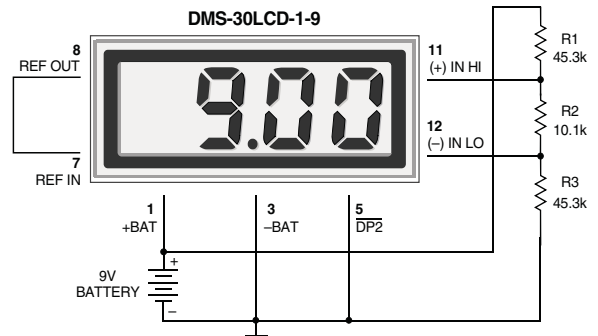

Figure 8. Power Supply Monitor (9V-Powered Models)
6. Power Supply Monitoring: A popular application for Murata Power Solutions' low-power LCD meters is monitoring the supply voltage in battery-operated portable equipment. Figure 8 demonstrates how a 9V-powered DMS-30LCD can be used to monitor its own supply. The meter used is the DMS-30LCD-1-9. A three-resistor voltage divider is used to attenuate the battery voltage and also to satisfy the requirement that the input voltages applied to pins 12 and 11 be at least 1.5 Volts above and below the battery voltage applied to pins 1 (+BATTERY) and 3 (-BATTERY). The divider should be designed so that 1/10th the battery voltage falls across the inputs to the meter: